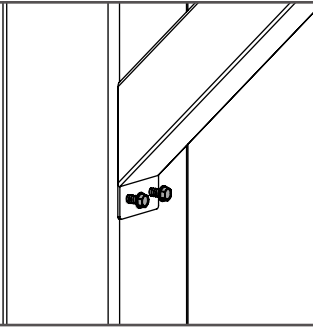

Fig. 40
3. Fasten Lateral Bracing Brackets through Lateral Bracing Support pre-drilled holes using 2 Evolution Self-Drilling Screws (component K) per Lateral Bracing Bracket. As shown in Fig. 40.